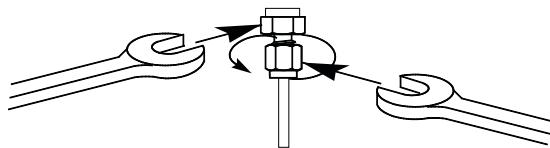

Figure 11 Final tightening
- 8 For 1/8-inch Swagelok fittings, use a pair of 7/16-inch wrenches to tighten the fitting 3/4 of a turn (Figure 11). For 1/4-inch fittings, use a pair of 9/16-inch wrenches to tighten them 1-1/4 turn (Figure 11).